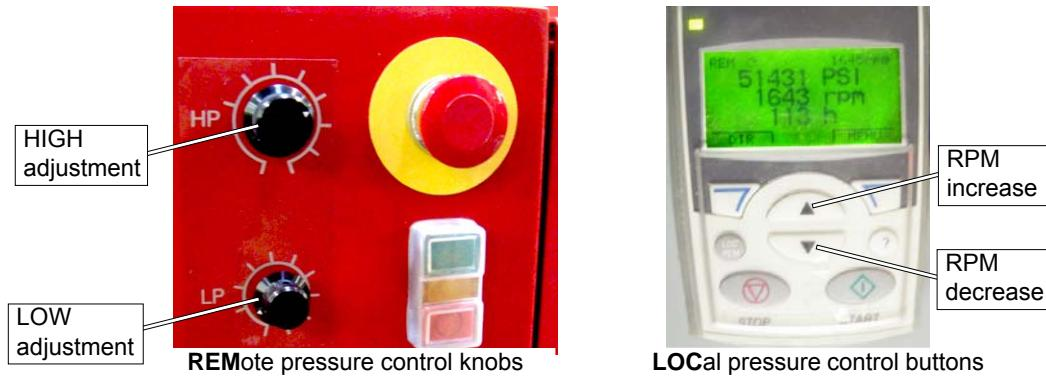

Figure 3-27
The pump RPM determines cutting pressure and may be adjusted up or down using either the keypad's arrow buttons while the pump is in the **LOC** (local) mode or using the pump's High or Low knob adjustments (Figure 3-27) while the pump is in **REM** mode (remote) and **Make** is operating in its **Test** mode (Figure 3-7).
- f. Use the **LOW** pressure adjustment knob on the pump's front panel (Figure 3-27) to set the desired preset low pressure cutting pressure. This setting is useful for piercing brittle materials or etching and scribing materials at reduced pressure. The Low pressure mode can be activated only by a signal from the controller software (Make) while the pump is in the REM mode.
- 3. Use the **HIGH** pressure adjustment knob on the pump's front panel (Figure 3-27) to set the desired preset high pressure cutting pressure. The high pressure setting is the value that the pump normally returns to when started. It can be activated only by a signal from the controller software (Make) while the pump is in the REM mode.